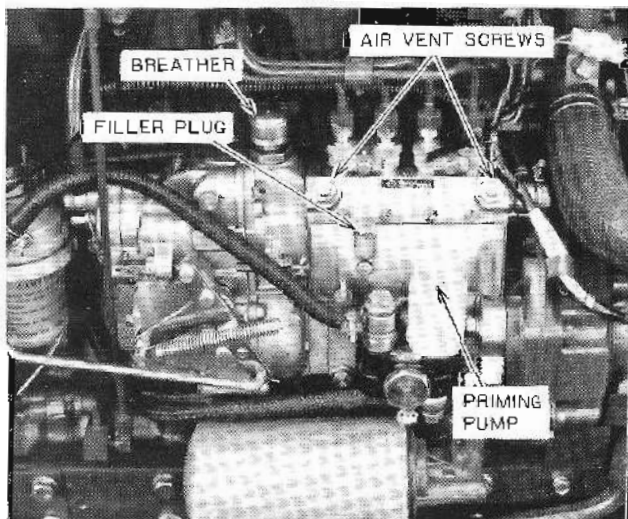
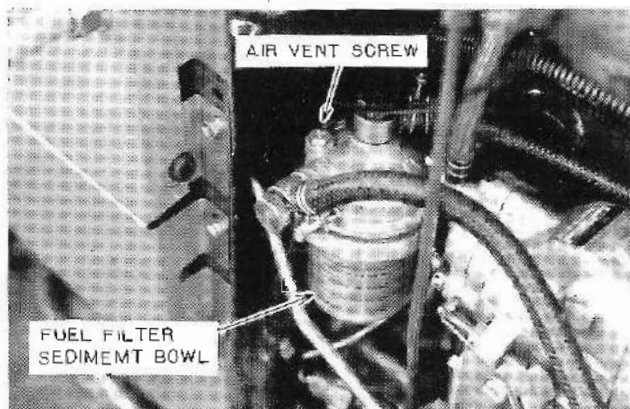

Figure 38 — Fuel Injection Pump
Figure 39 — Fuel Filter
Add oil to the injection pump approximately 280 cc every 300 hours, Figure 38.
1. Be sure there is adequate fuel in the fuel tank, then remove the fuel sediment bowl, Figure 39.
1. Remove the sediment bowl, Figure 39.
2. Loosen the fuel filter air vent screw, Figure 39, on top of the filter. Bleed the filter by actuating the priming pump plunger, Figure 38, until air-free fuel flows from the filter, then tighten the air vent screw.
3. Loosen the injection pump air vent screws, Figure 38, and actuate the priming pump plunger until air-free fuel flows from the screws, then tighten the screws.